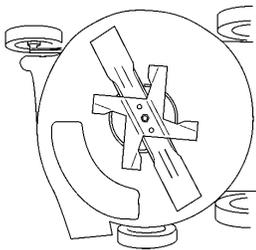

Figure 20
- Tip the mower onto its right side (Fig. 20).